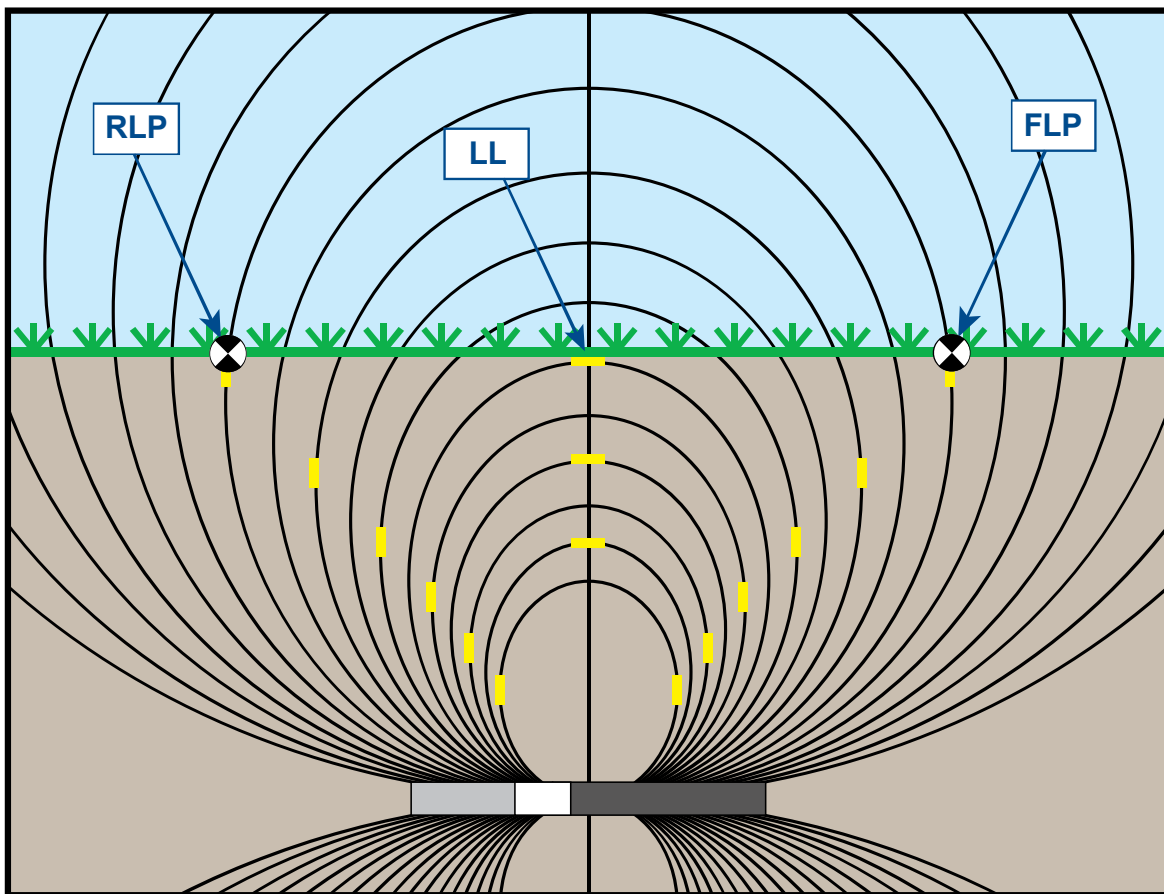

Figure B1. Flux Field and Geometry of FLP, RLP, and LL (side view)
The signal field emitted by the transmitter, as shown in Figure B1, consists of a set of elliptical signals or flux lines. The flux lines indicate the position of the transmitter. When the transmitter is level with respect to the ground, you will find that the locate line (LL) is directly over the transmitter, and the depth displayed on the receiver is the actual depth. You will also find that the locate points (FLP and RLP) are at equal distances from the transmitter. The location of the LL is found at the intersection of the ground and the horizontal component of the flux field, and the FLP and RLP are found where the vertical components of the flux field intersect with the ground. Some of the horizontal and vertical components are identified by short yellow lines in Figure B1.